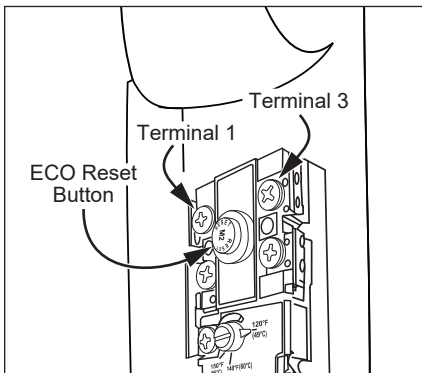

Figure 34 - Energy Cut Off (ECO) Button.
- Press the red ECO reset button (Figure 34).